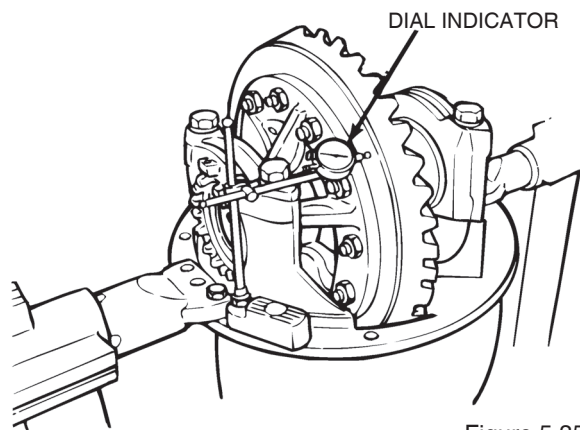

Figure 5.35
1. Attach a dial indicator in the differential case mounting flange so that the plunger or the pointer is against the back surface of the ring gear. Figure 5.35.